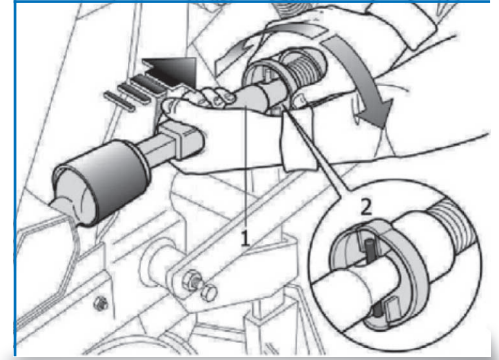

Figure 25
You can cancel the connection of the unit with axle by following below processes (Fig. 25):
Push the sleeve (1 , Fig. 25) by pressing in the direction of arrow, at the same time turn the ring (2, Fig. 25) until leaving from the pin.
- Pull up the sleeve , Fig. 25) backwards to the end.